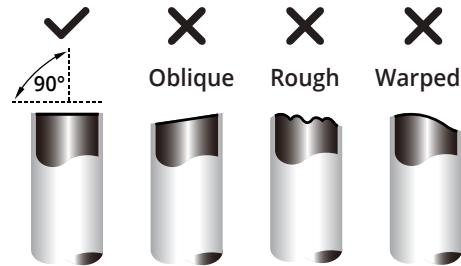

Fig. 2.9
4. Make sure that the pipe is cut at a perfect 90° angle. Refer to **Fig. 2.9** for cut examples.